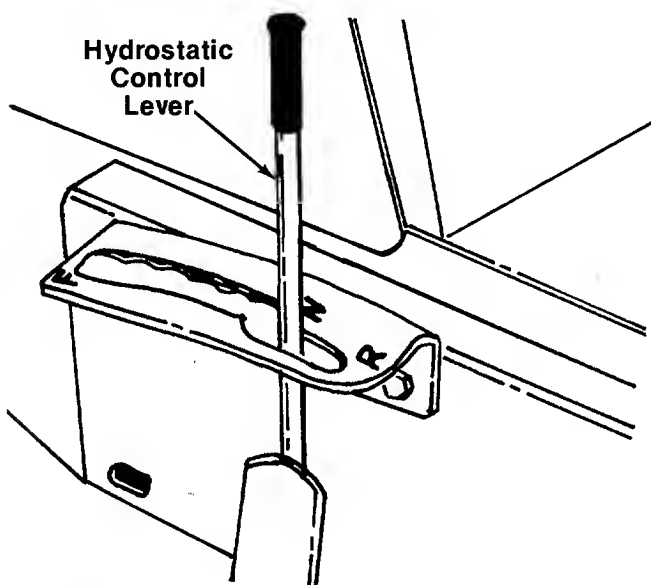

FIGURE 8.
A single control lever connected to the hydrostatic transmission controls both the speed and direction of the tractor. Infinite speed control is achieved by moving the control lever forward or backward. The farther forward or backward you move the control lever, the faster you will travel. Pulling the control lever into neutral (N) area will stop the tractor. To increase rear wheel torque (pulling power), move the control lever towards neutral (N) position. The lawn tractor responds similar to shifting to a lower gear with a gear type transmission. See figure 8.